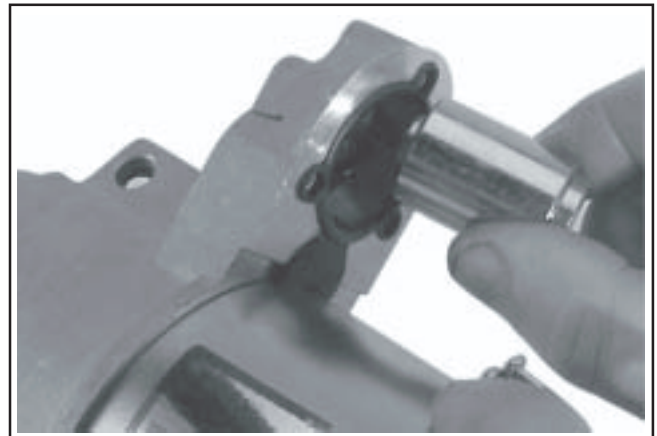

Figure 8-13. Removing Plunger.
3. Lift and unhook the plunger assembly from the drive lever. Remove the gasket from the recess in the housing. See Figure 8-13.